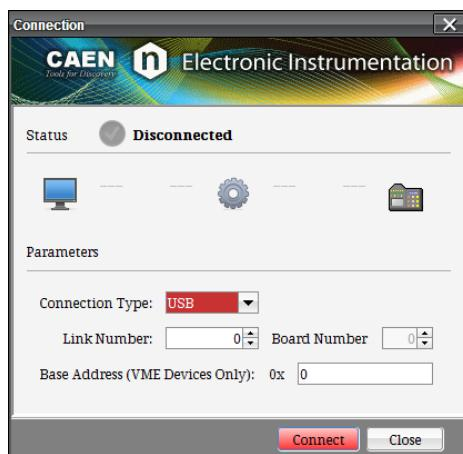

Fig. 7.6: Connection Window
- “**Connect**” button: opens the Connection window (Fig. 7.6:).